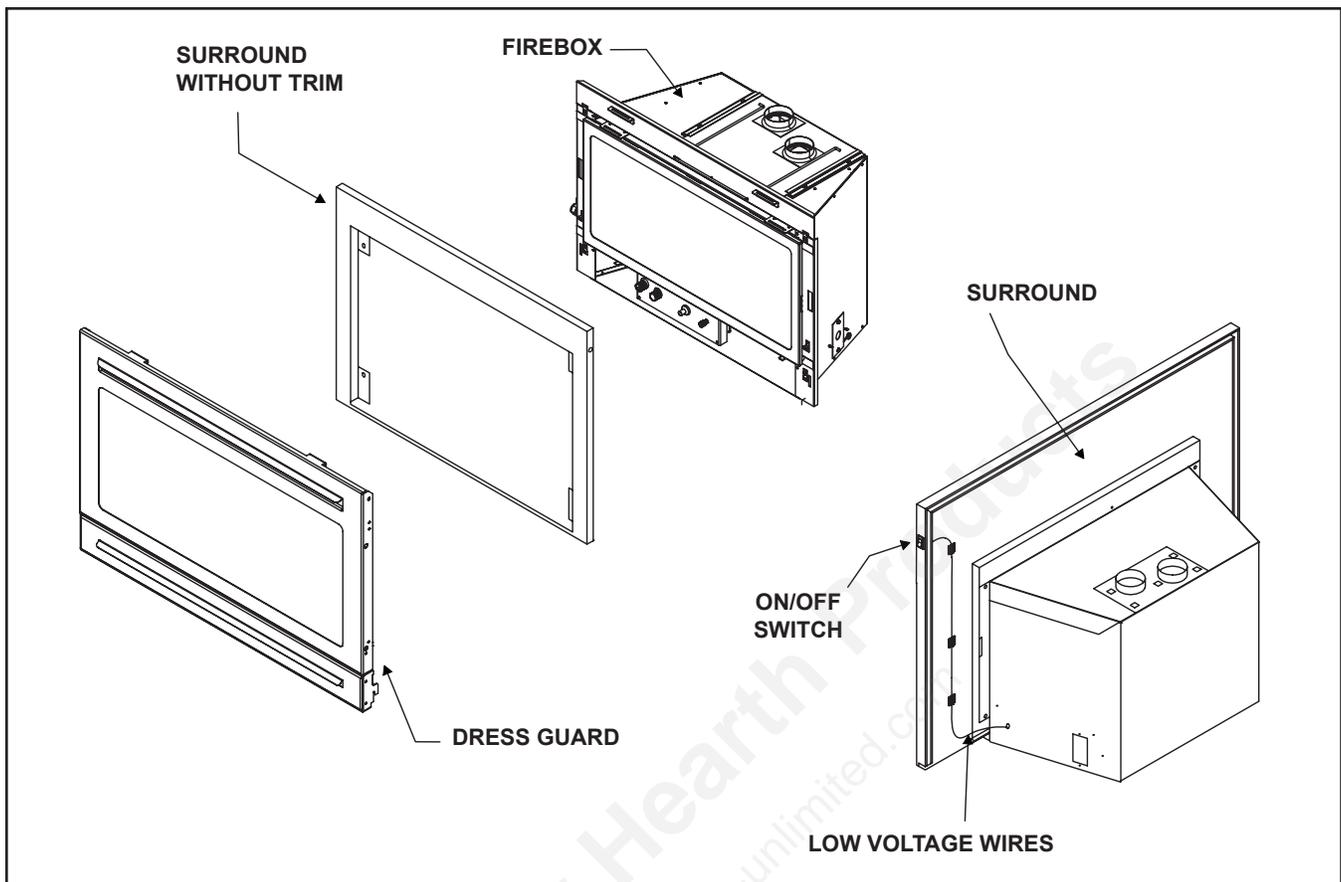

FIGURE 7
1. Find the coiled low voltage wires and ON/OFF switch attached to outer right side of the insert. See Figure 7.
4. Remove and retain the four surround attachment screws at the corners of the face of the unit. See Figure 7.